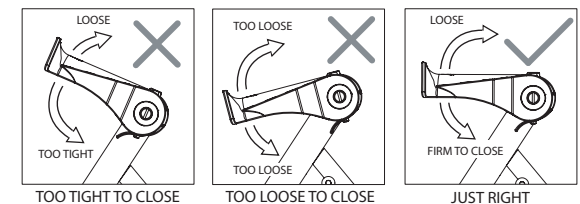

Figure 9.
14. Check your setup matches figure 9. and that your lever is horizontal (level with the ground). If not, adjust as necessary until it does.